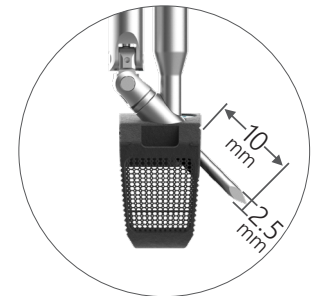

Figure 11b
- Poly Angle instrumentation includes the Poly Angle Awl, the Poly Angle Drill, and the Single Barrel Guide (Figure 11b)